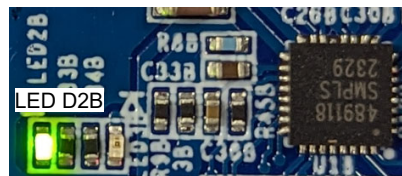

Figure 4. Power Indicator for Sink Mode
5. Connect a USB Type-C sourcing device to the USB Type-C receptacle (CN1) using a USB Type-C Cable and supply power to the battery module. Confirm green LED (D2B) light is on as shown in Figure 4.
6. Connect a USB Type-C sourcing device to the USB Type-C receptacle (CN1) using a USB Type-C Cable and supply power to the battery module. Confirm green LED (D2B) light is on as shown in Figure 4.